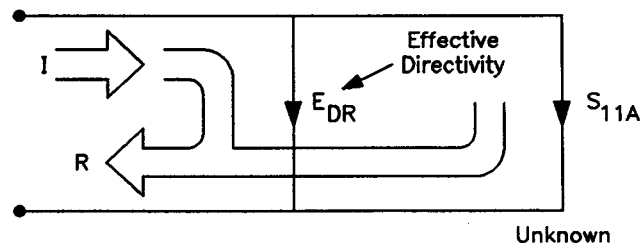

Figure B-3
In such a measurement, all of the incident signal does not always reach the unknown (see Figure B-3). Some of (I) may appear at the measurement system input due to leakage through the signal separation devices. Also, some of (I) may be reflected by imperfect adapters between signal separation and the measurement plane. The vector sum of the leakage and miscellaneous reflections is directivity, E_{DF} . The measurement is distorted when the directivity signal combines vectorally with the actual reflected signal from the unknown, S_{11A} .